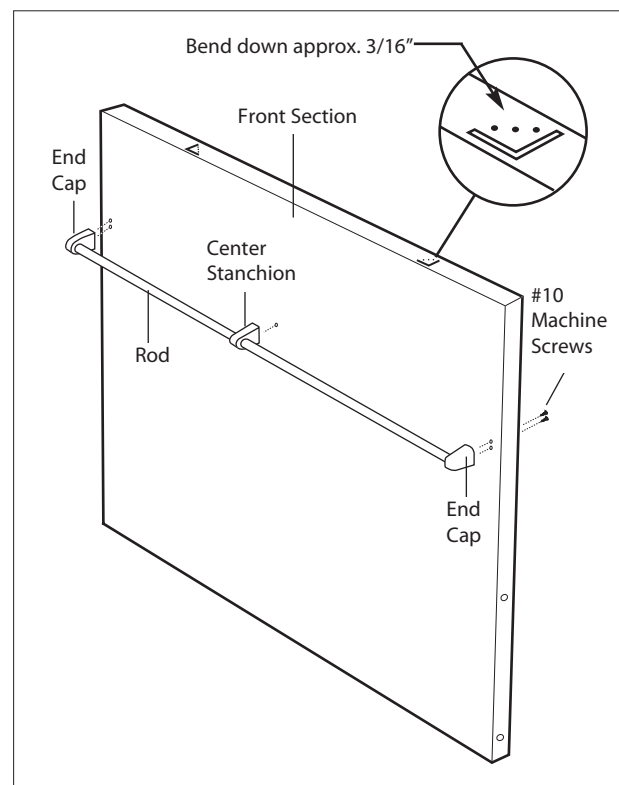

Fig.04
3. Attach rod, end caps and center stanchion to Front Section of backguard with #10 machine screws supplied (fig. 04).